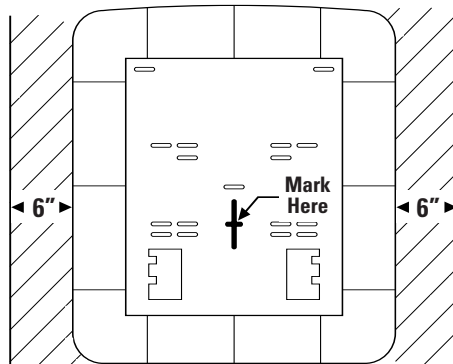

Figure 1
1. Locate the dispenser on the wall with bottom edge 45" above the floor and mark the wall at the center mounting slot as shown in Figure 1.